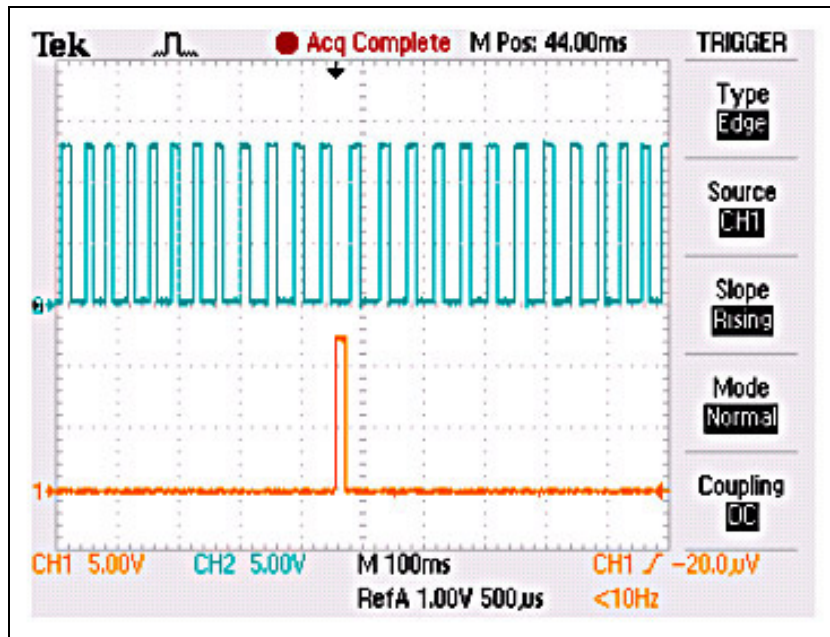

Figure 2.
b) The EPM puts out a 12V square wave, 24 crank signals and 1 short pulse cam signal every 360 distributor degrees, see figure 2.